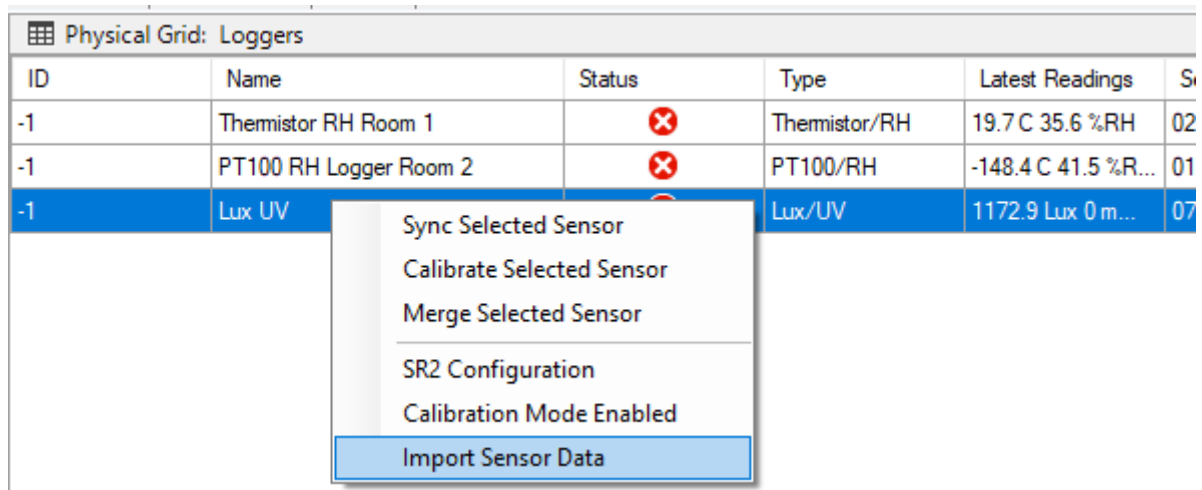

Figure 19
- iii. Click on **Import Sensor Data** from the displayed drop-down menu. See Figure 19.